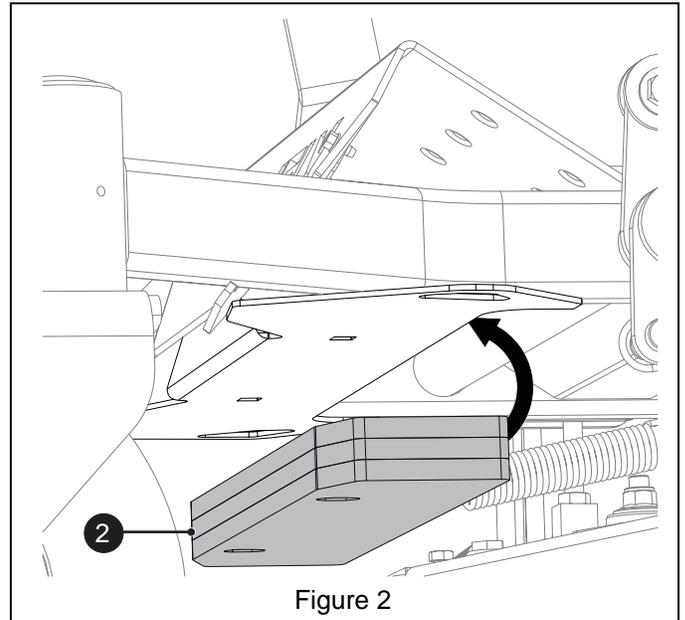

Figure 2
1. From under machine position three weight plates (item 2) on top of crossmember below footplate. See Figure 2.